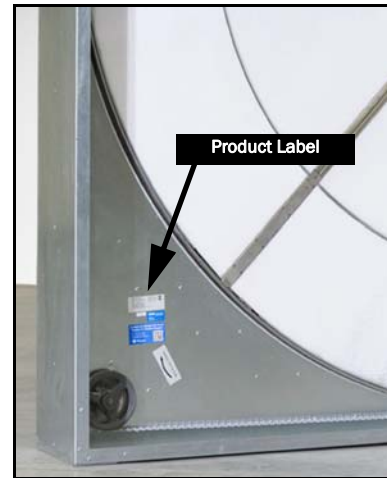

Figure 5 Product label (with serial number) on pulley corner of each wheel.
All Airxchange wheels are labeled with Model, Serial, and Part numbers. The label can be found on the sheet metal adjacent to the drive pulley, Figure 5. You should always have a serial number when contacting Airxchange for product support or when ordering replacement parts.
- *Parts Lookup* - Access replacement parts information, drawings & more for your Airxchange wheel(s) using the six digit serial number on the product label, Figure 5.